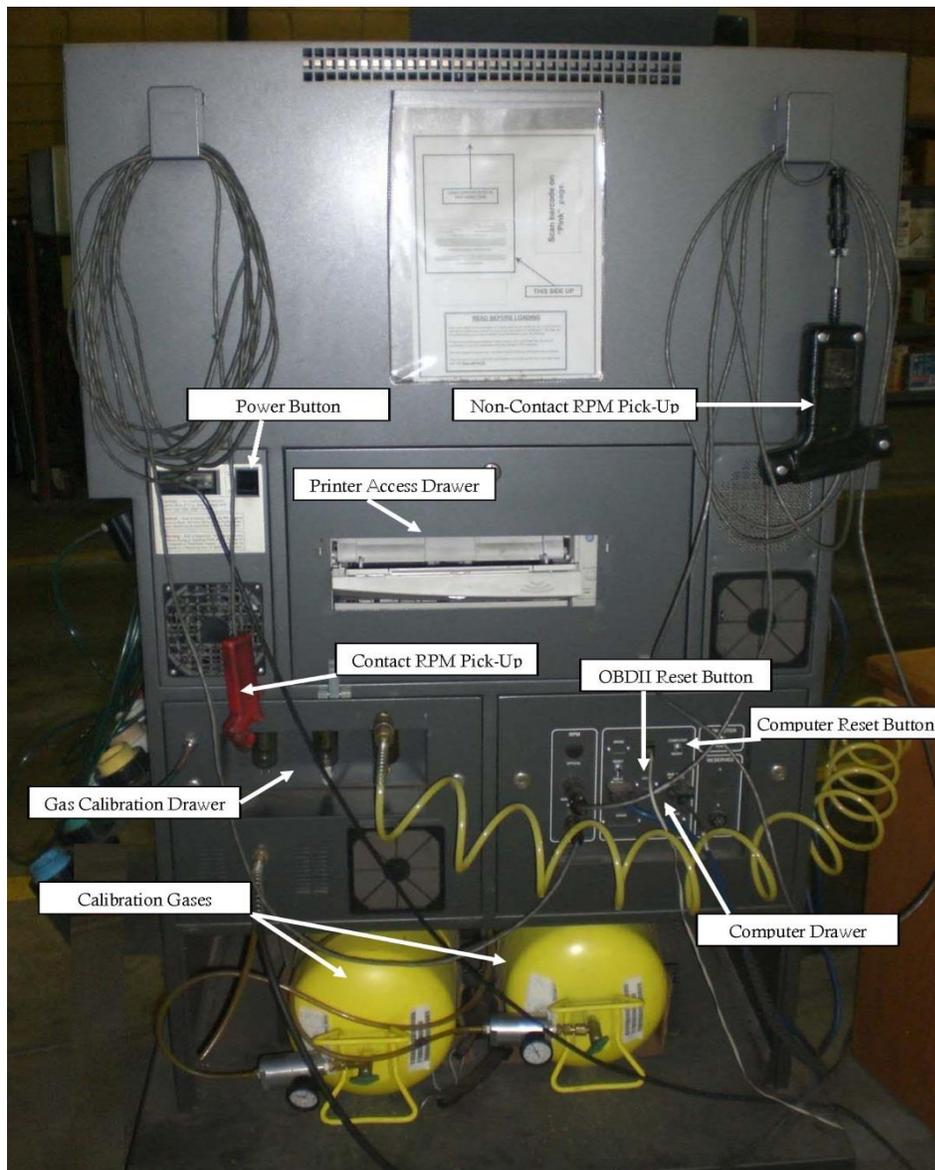

Figure 7 Back of the EIS
Locate the Main Power (black rocker) button next to the power cord connector on the back of the EIS. To turn on the computer, locate the computer power button on the lower right hand side of the EIS (as you are facing the back of the machine see Figure 7 below). Press computer power button for one second and listen for four (4) audible beeps indicating the computer received the start-up command. The EIS requires a 15 minute warm up period.